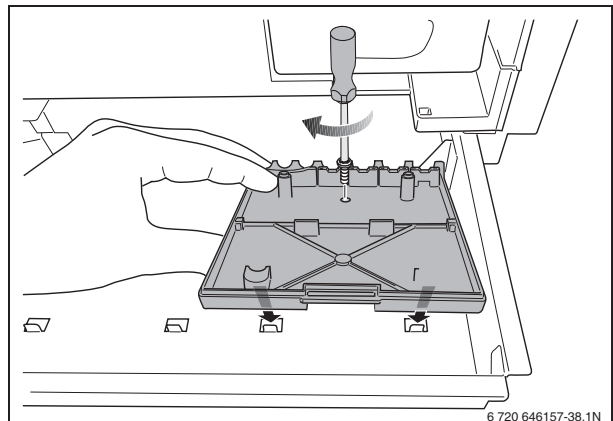

Fig. 38 Installing the wall bracket
- Install the wall bracket in the relevant slots in the drawer (fig. 38).